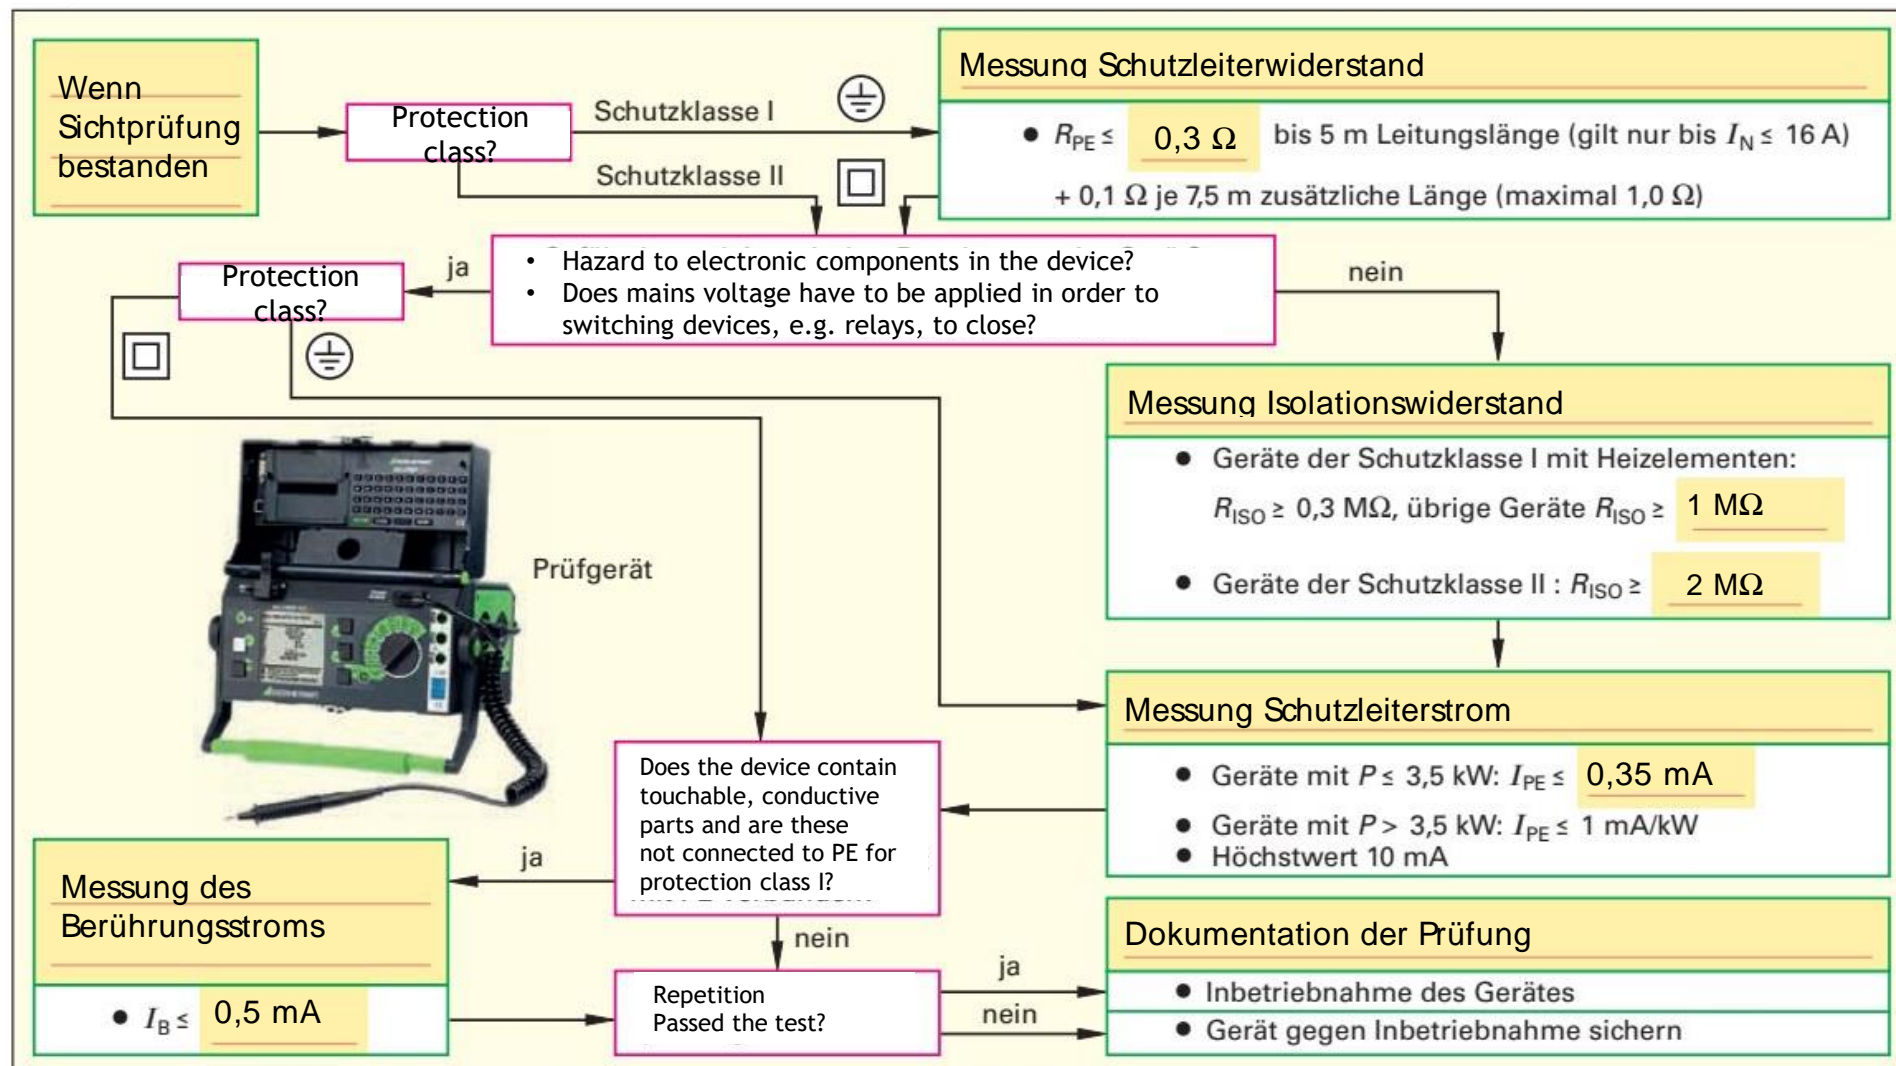

Figure 3: Overview of the periodic test according to DIN VDE for portable devices of protection class I and II
a) Complete the connection of the test leads in Figure 3 when measuring the insulation resistance.
c) Fill in the missing values for the minimum insulation resistances for the various protection classes (SC).
Complete the test procedure (**Figure 3**) for the repeat test in accordance with DIN VDE of a portable electrical appliance of protection class I and II.